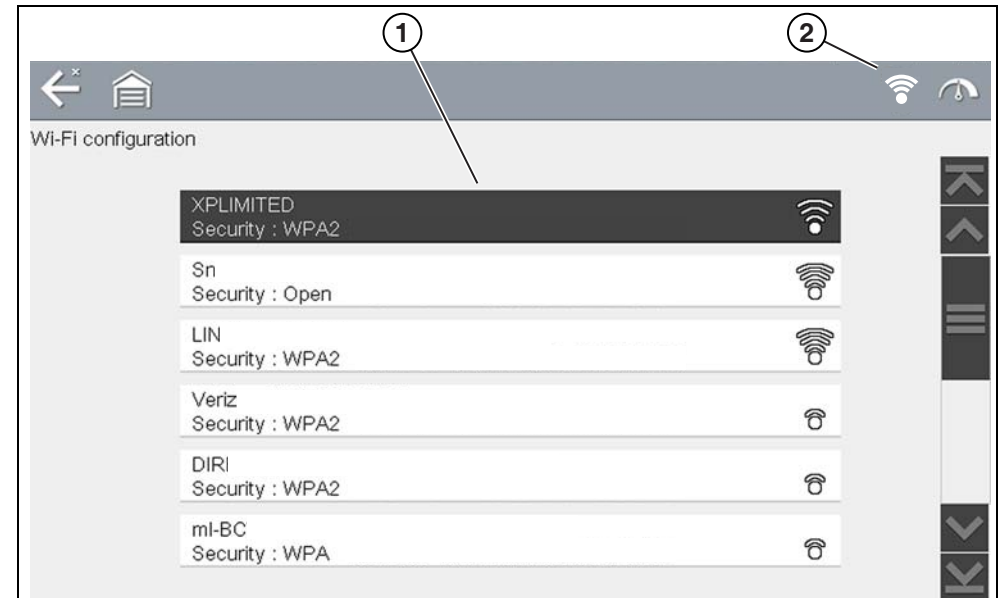

Figure 11-2 Wi-Fi Configuration Screen
4. Select your network. Use the scroll feature to show all active connections (Figure 11-2).